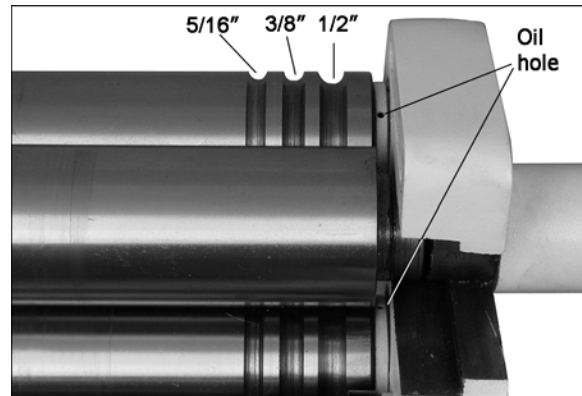

Figure 6
There are three wire grooves at the end of the pinch roll and idler roll, to accommodate a 5/16", 3/8" and 1/2" wire. See Figure 6.
- Place a few drops of 30W oil into the holes at each end of the rolls (see Figure 6). Then operate the machine for a few seconds to distribute the oil.